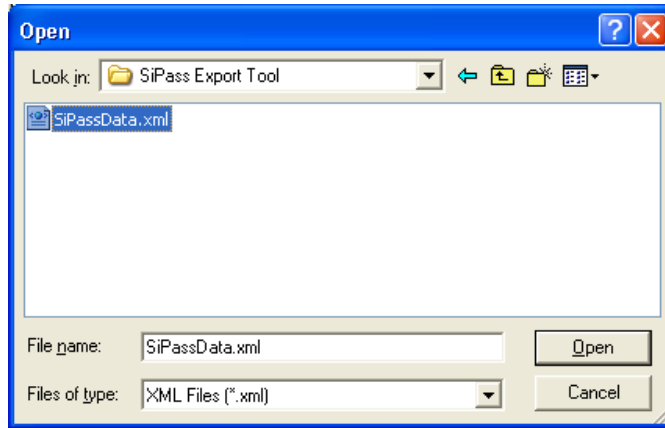

Fig. 10 Selecting the SiPass XML file
- Select it and click **Open** (Fig. 10)